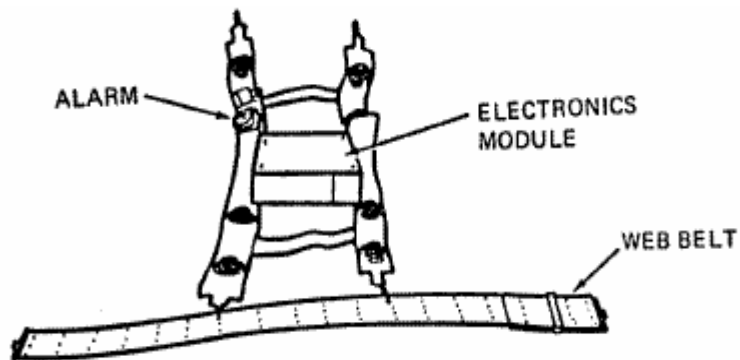

FIGURE 3-4. Attaching the Torso Harness to the Web Belt
1. Position the web belt next to the Torso Harness as shown in Figure 3-4 (the alarm should be positioned above the electronics module). If suspenders are attached to the web belt, remove them.